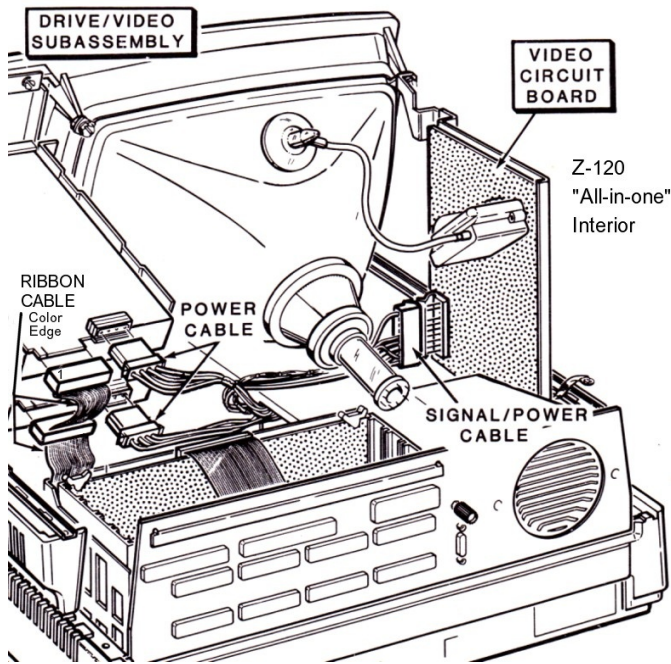

Figure 3.
- * Refer to Figure 3 and remove the ribbon cables from the rear of the floppy drive(s). The marked edge is to the left side of the computer.
- * Refer to Figures 3 and 6 to remove the signal/power cable from the video deflection circuit board mounted vertically on the right side of the computer.